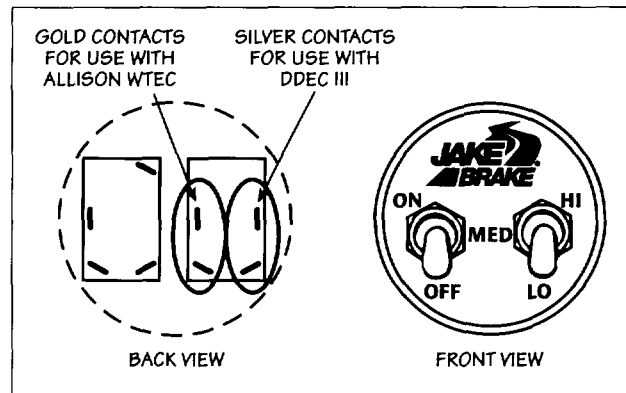

FIG. 7
2. If the engine brake request requires a positive signal, connect the engine brake request wires to the gold contacts on the on/off portion of the switch group, P/N 020035, to a positive switched voltage source (+VDC) as shown in Fig. 7.
NOTE: For vehicles equipped with Allison World Transmissions, see Figs. 7 - 9.